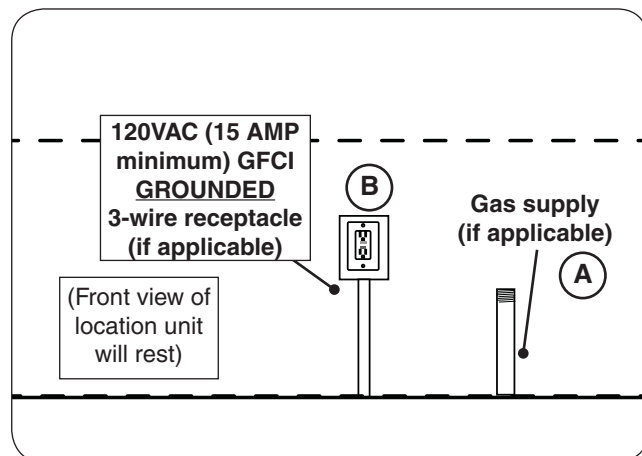

Fig. 19-1 Route gas and electrical (as applicable)
1. Route the gas supply into the area that the unit will rest over (see Fig. 19-1, A).
1. Wire the receptacle into the area that the unit will rest over (see Fig 19-1, B).